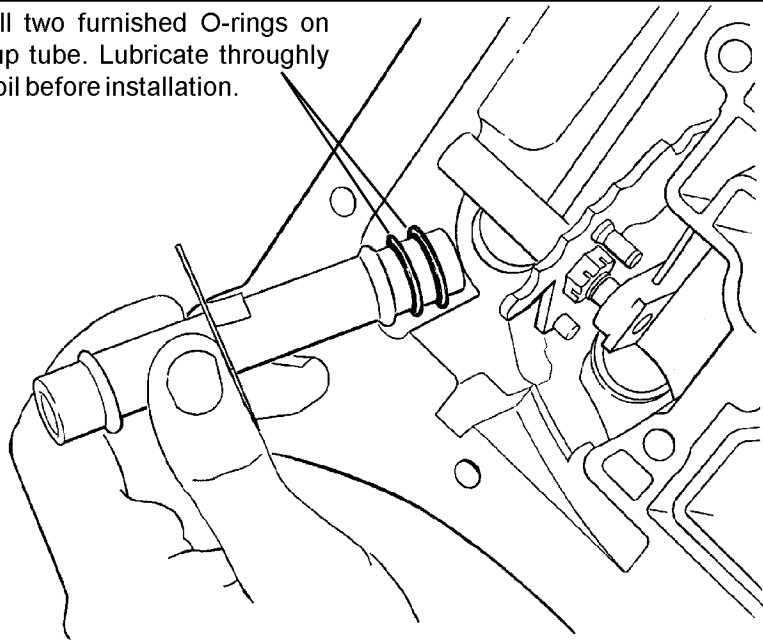

Figure 16
STEP 16. Install two (2) filter O-rings on filter pick-up tube (**See Fig. 16**). Lubricate O-rings with clean ATF then push pick-up tube and filter assembly up into transmission. On 1968 and later models install filter spacer (if present) and shoulder bolt then torque to 8 - 10 lb.ft (11 - 13.6 Nm).